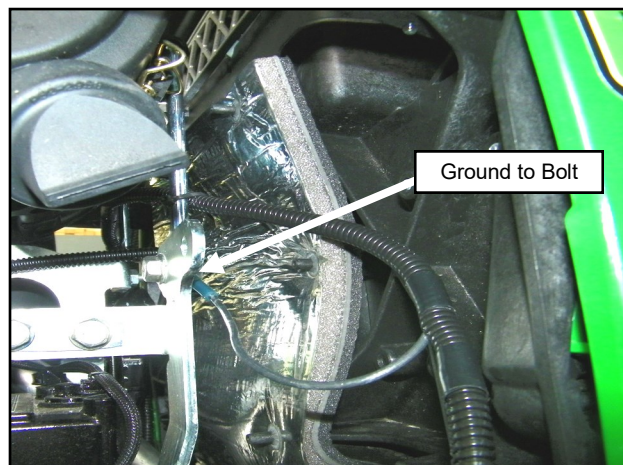

Fig. 15.8 (Wire Harness Ground to Bracket)
- 15.8** Unbolt the nut and bolt at the back of the engine and re-secure with the ground terminal on. See Figure 15.8.